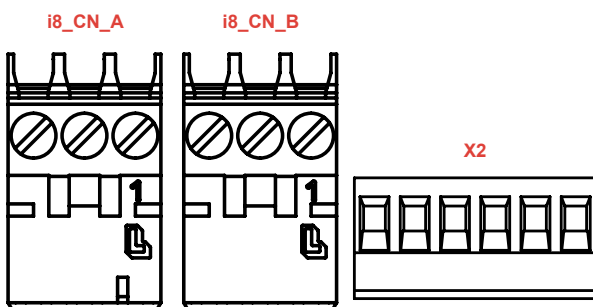

Fig. 3
3. Single Circuit Connections Kit - Shown in Fig.3.